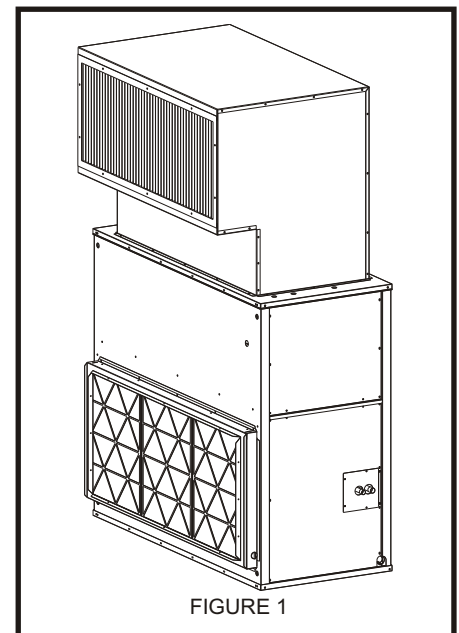

FIGURE 1
2. Locate plenum front panel (A) and mount to the air handler using holes provided in the unit top pan.
3. Attach left side panel (B) to the air handler top pan and plenum front panel. Repeat for right side panel (C).
4. Attach back panel (D) to air handler and secure to both side panels (B & C).
5. Add top pan (E) to the assembly and secure both sides.
- b. Adjust outlet air pattern of register based on application and louver deflection settings provided. **(See Figure 1)**